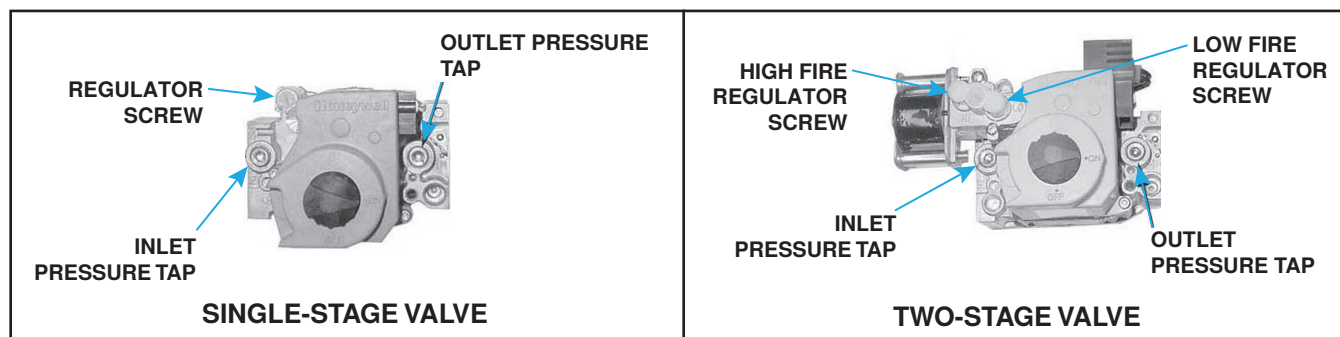

Figure 37. Combination Gas Valves
1. With manual valve (on combination valve) positioned to prevent flow to main burners, connect manometer to outlet pressure tap (see Figure 37) on valve.
3. Normally, adjustments to factory-preset regulator should not be necessary. If adjustment is necessary, set pressure to correct settings by turning regulator screw (see Figure 37) IN (clockwise) to increase pressure or OUT (counterclockwise) to decrease pressure. Consult valve manufacturer's literature provided with furnace for more detailed information.
2. Connect manometer to 1/8-inch inlet pressure tap on combination gas valve (see Figure 37).